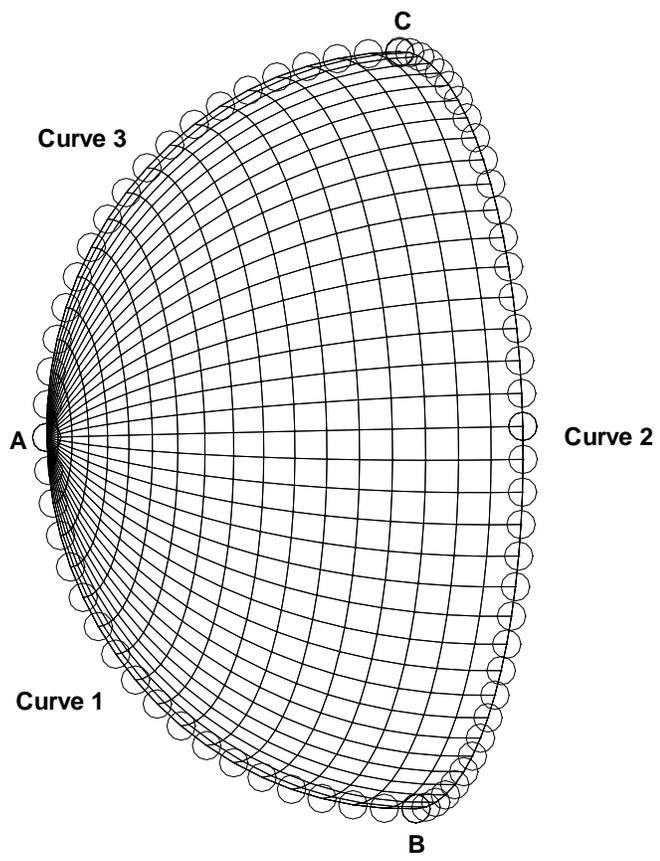
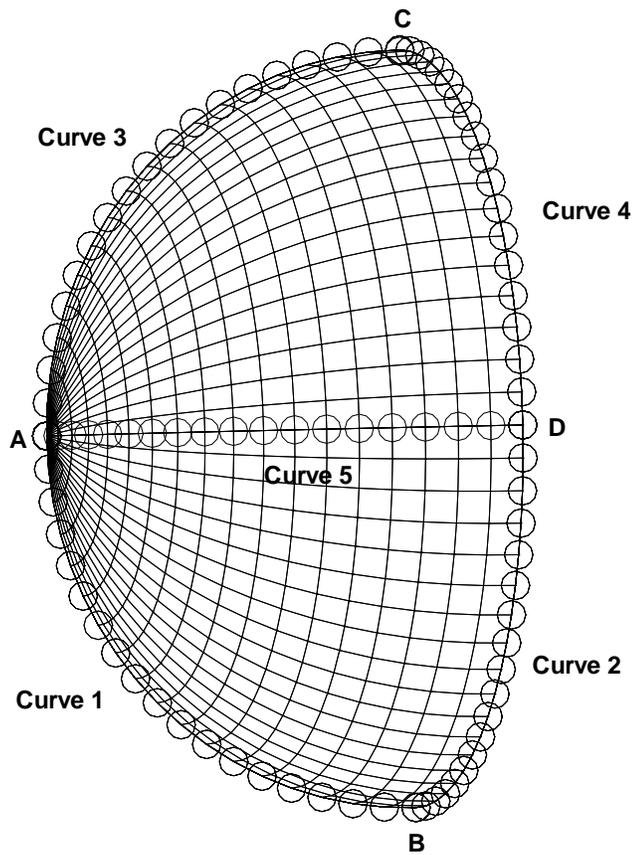

Figure 1. Nose surface with bounding curves.
Figure 2. Nose surface with five curves.
4. Notice that three curves have been added to the nose region. Press hot key [c] on each of the curves to activate. The curves should be similar to the ones depicted in Figure 1.
5. Split the longest curve, Curve 2 in Figure 1, along the streamwise coordinate to make 4 curve. See Figure 2.
- Press [Enrich] with -1 option. At this time, you should have 5 curves on the nose surface. See Figure 2.